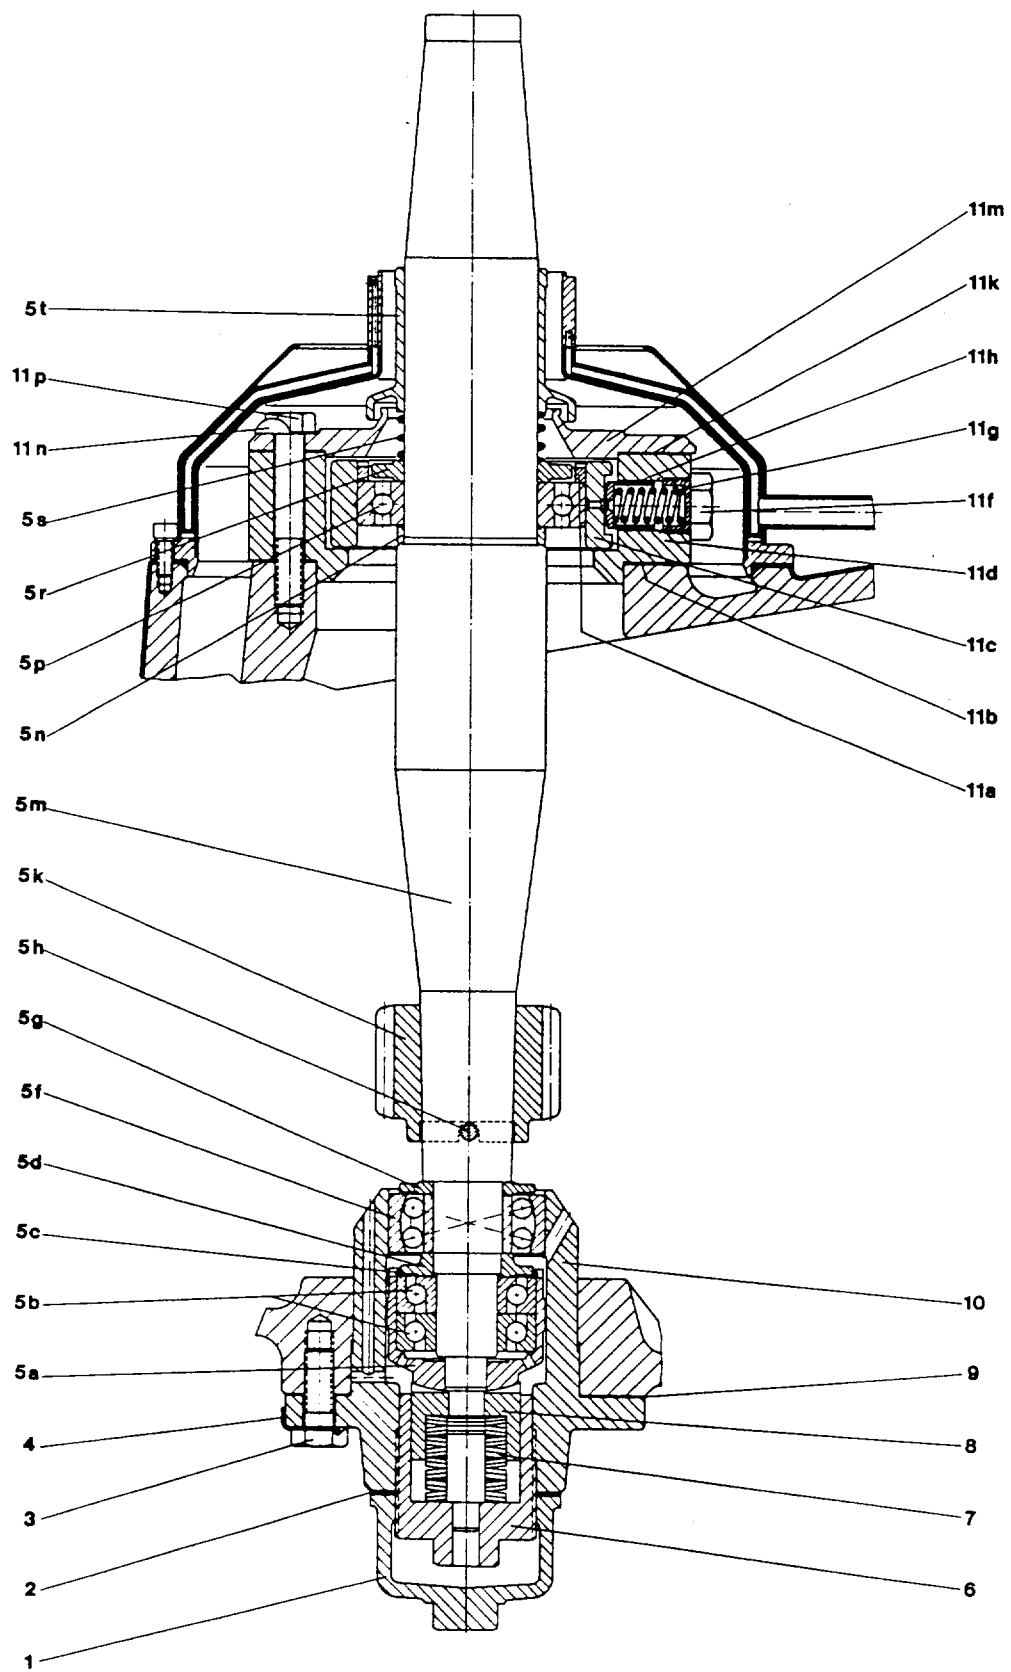

Fig. 14
\*\* This part is included in worm wheel assembly with clamp plates (11), but it is also available as separate item. When the worm wheel needs replacement, the worm 5k (fig. 14) should also be replaced (see 8.5, No. 3).